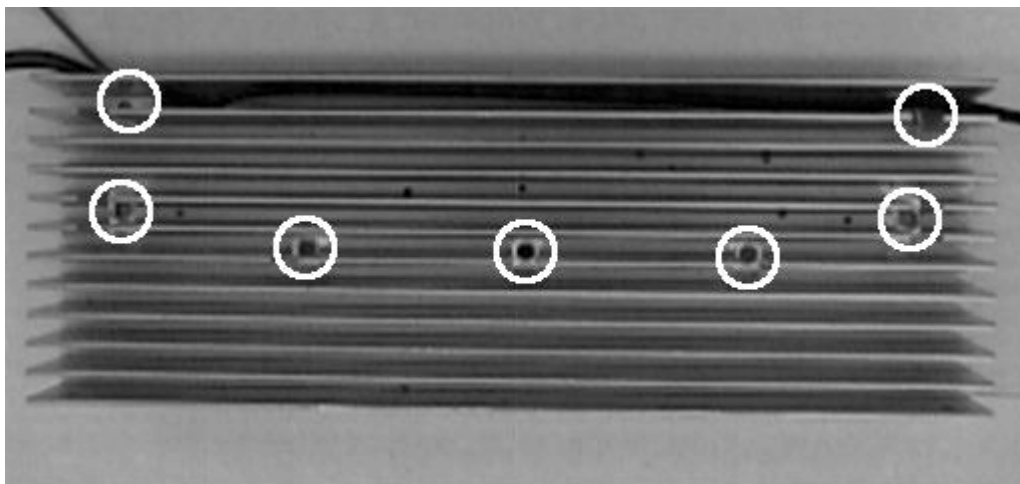

Figure 7.20: Heat Sink Screws for UHF PA Removal
5. Remove the seven cap screws holding the heat sink casting to the main casting as per Figure 7.20.
8. Carefully reconnect the above cables to the new Power Amplifier and position the new module inside the EX7100 terminal casting. Refit the seven cap screws holding the heat sink casting into the main casting. (Refer to Figure 7.20)